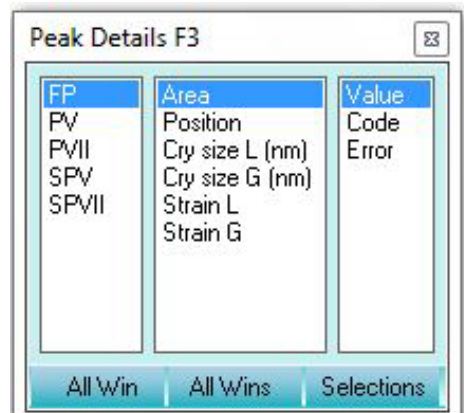

Figure 8. Peak Details Window
- The 'Peak Details' window pops up (Figure 8). The Peak Details window controls the displayed peak label information. The left column has 5 different fit models: 'FP', Fundamental Parameters, is the only model that uses instrument parameters; the other models are purely mathematical fits assuming nothing about the instrument. The middle column changes what information is displayed: peak position, area, crystal size, and strain. The right column determines how the information is displayed, ie a numerical value, a fixed or refined text label, measurement error. Set the peak details parameters.